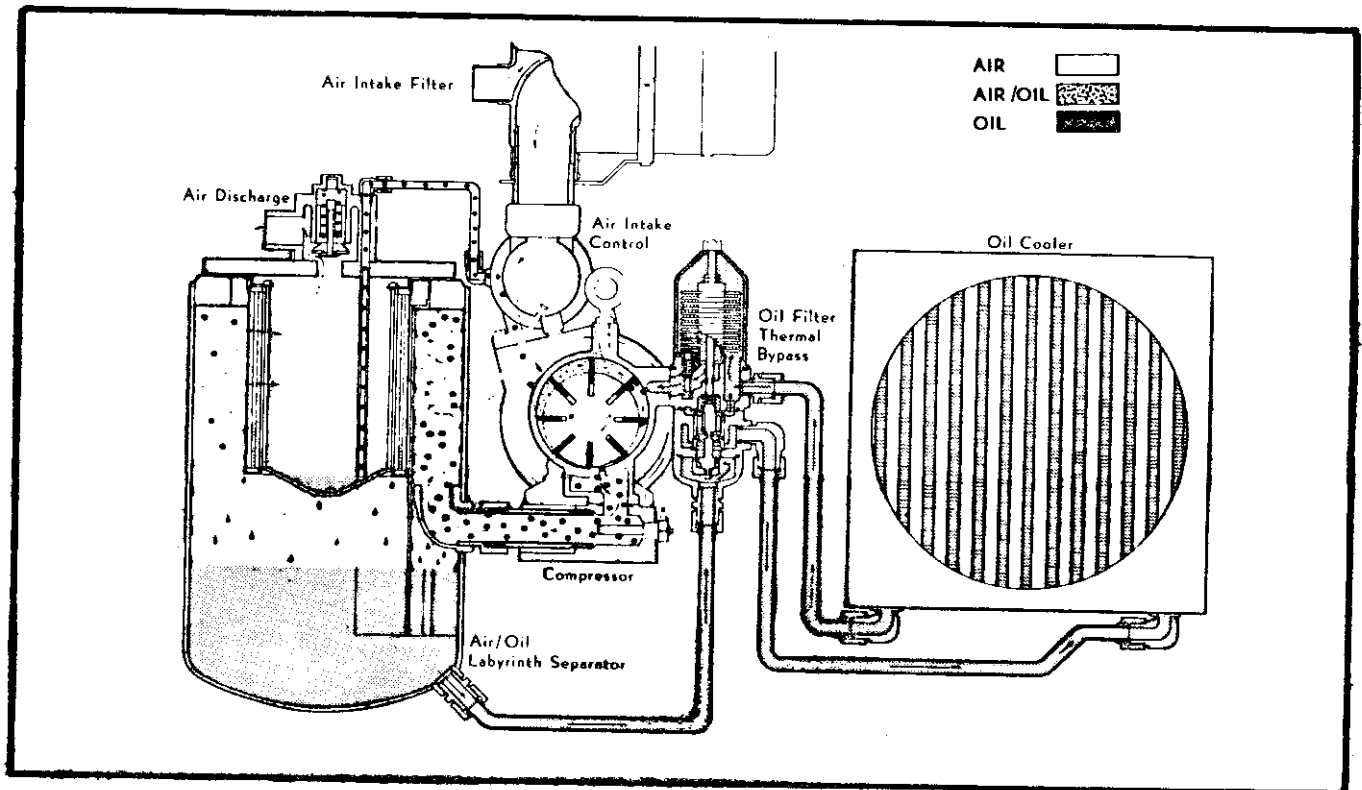

Figure 4-1. Air and Oil Cycle Flow Diagram
4.4. **AIR CYCLE.** (Figure 4-1). Free air is drawn into the stator through the air cleaner and intake control. The air enters through large ports in the end cover at a point where the vanes are well out of the rotor slots, thus filling the space segments between the vanes with air. In rotation, the vanes are moved radially inward in their slots by the bore wall. The volume between the vanes decreases, thus compressing the trapped air. At the rated point of compression, the discharge ports are reached and the compressed air passes into the discharge chamber. Oil is injected during the above cycle to cool the air, seal all leakage and lubricate all rubbing
4.5. **OIL CYCLE.** (Figure 4-1). After oil is separated from the compressed air, the oil accumulates in the oil separator. The discharge air pressure forces oil into the thermal bypass valve which senses the temperatures of the oil. When the oil is cool, oil bypasses the cooler and is passed directly into the oil filter; when the oil warms up, oil is directed to the oil cooler for heat dissipation and then into the oil filter. The oil is then passed into the compressor where oil is injected under pressure into the rotor bore compartment and to the bearing and end faces.